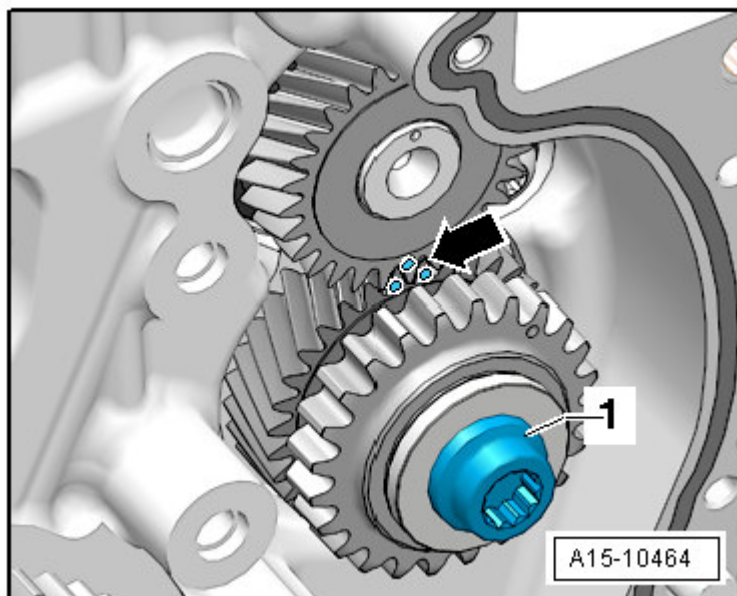

Fig. 17: Identifying Intermediate Shaft Sprocket
- Tightening sequence, refer to **Fig. 17**.